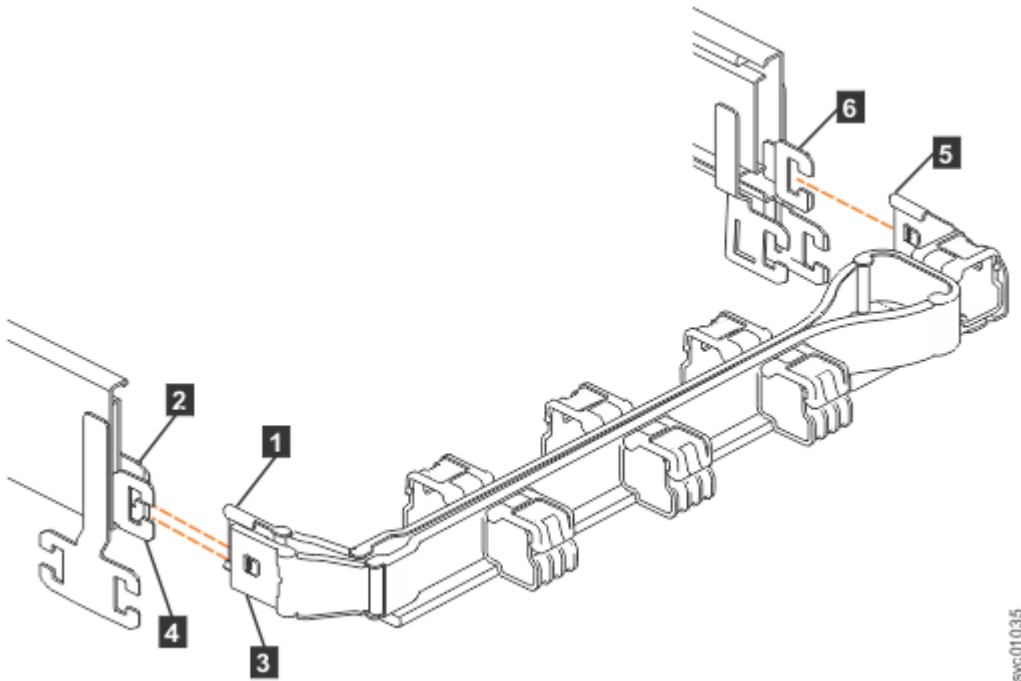
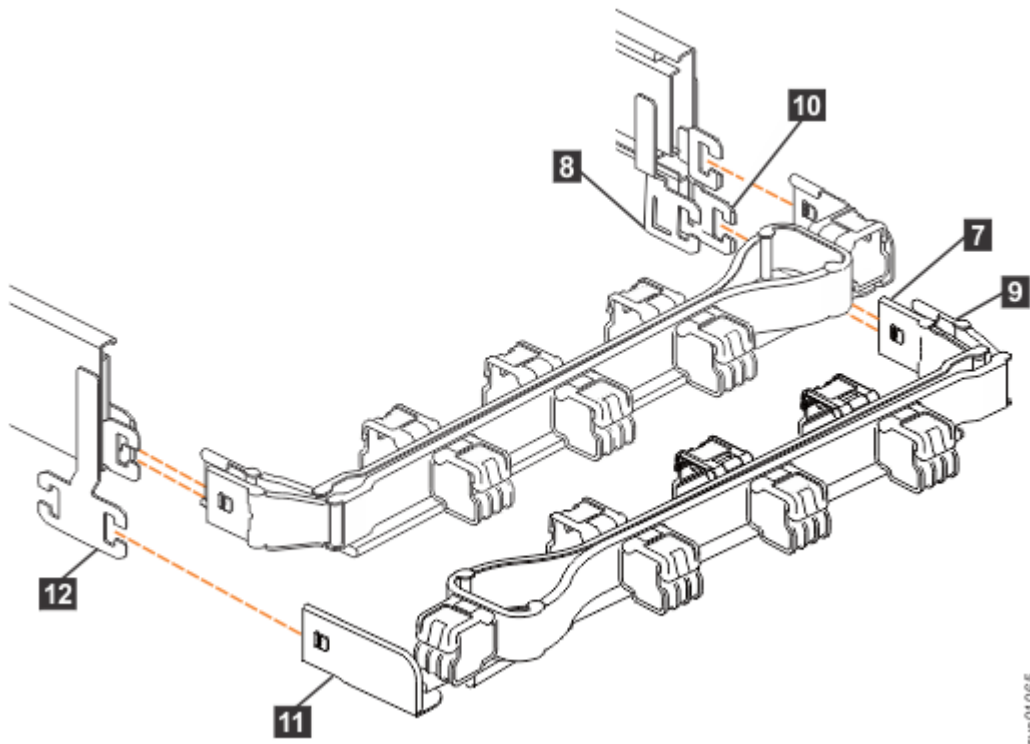

Figure 100. Connectors for the upper cable management arm
Figure 101. Components of the lower CMA assembly
The connectors of the CMA are installed on the rail hooks at the end of the support rails. Figure 100 on page 154 shows the connectors on the upper CMA assembly.
1. Press the latch on the connector base on the upper CMA assembly (**5** in Figure 100 on page 154).
2. Pull the connector to remove it from the connector base on the right support rail (**6** in Figure 100 on page 154).
3. Press the latch on the outer connector of the upper CMA assembly (**3** in Figure 100 on page 154).
4. Remove the outer connector from the inner member of the left support rail (**4** in Figure 100 on page 154).
5. Remove the inner connector of the upper CMA assembly (**1**) from the inner member of the left support rail (**2**), as shown in Figure 100 on page 154.
Note: The procedure for removing the lower CMA assembly is the same as the procedure to remove the upper CMA assembly. However, the connector locations are reversed. For example, the connector base of the upper CMA (**5** in Figure 100 on page 154) connects to the right rail. The connector base of the lower CMA (**11** in Figure 101 on page 155) attaches to the left rail.
6. Remove the connector base on the lower CMA assembly (**11**) from the connector on the left support rail (**12**), as Figure 101 on page 155.
7. Remove the inner connector of the lower CMA assembly (**9**) from the outer member of the right support rail (**10**), as shown in Figure 101 on page 155.
8. Remove the outer connector of the lower CMA assembly (**7**) from the inner member of the right support rail (**8**), as shown in Figure 101 on page 155.